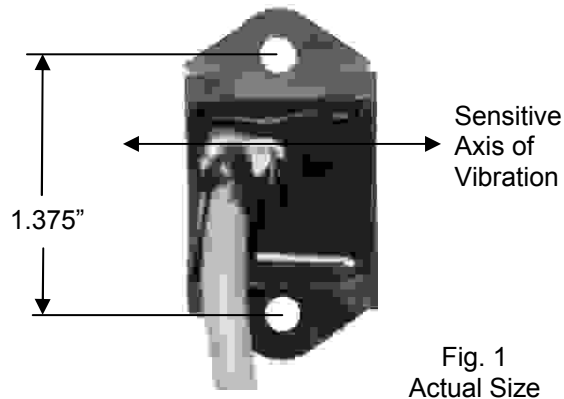
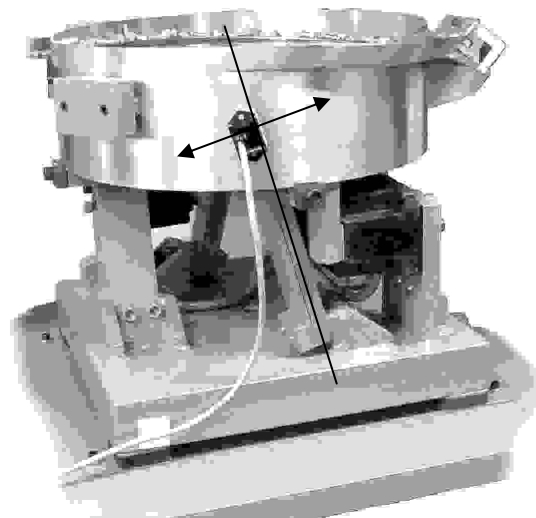

Fig. 1
Fig. 2 The arrow shows the direction of vibration which is at a right angle to the spring pack.
feeder. The double-ended arrow in figure 1 shows the sensor's sensitive axis. Align the sensitive axis of the sensor in the same direction as the vibration (see figure 2). The sensor must be oriented correctly for proper operation.
- 6) Remove the vibration sensor from its protective packaging. Remove the liner from the adhesive backing. Avoid touching the tape. Align the sensor as shown in figures 1 and 2. Apply the vibration sensor to the prepared area of the feeder. Press the sensor very firmly onto the feeder surface for at least 10 seconds.
Use a cable tie and an adhesive-backed mount to attach the sensor cable to the side of the drive base. See Figure 2. Clean the mounting area before applying the adhesive-backed mount.